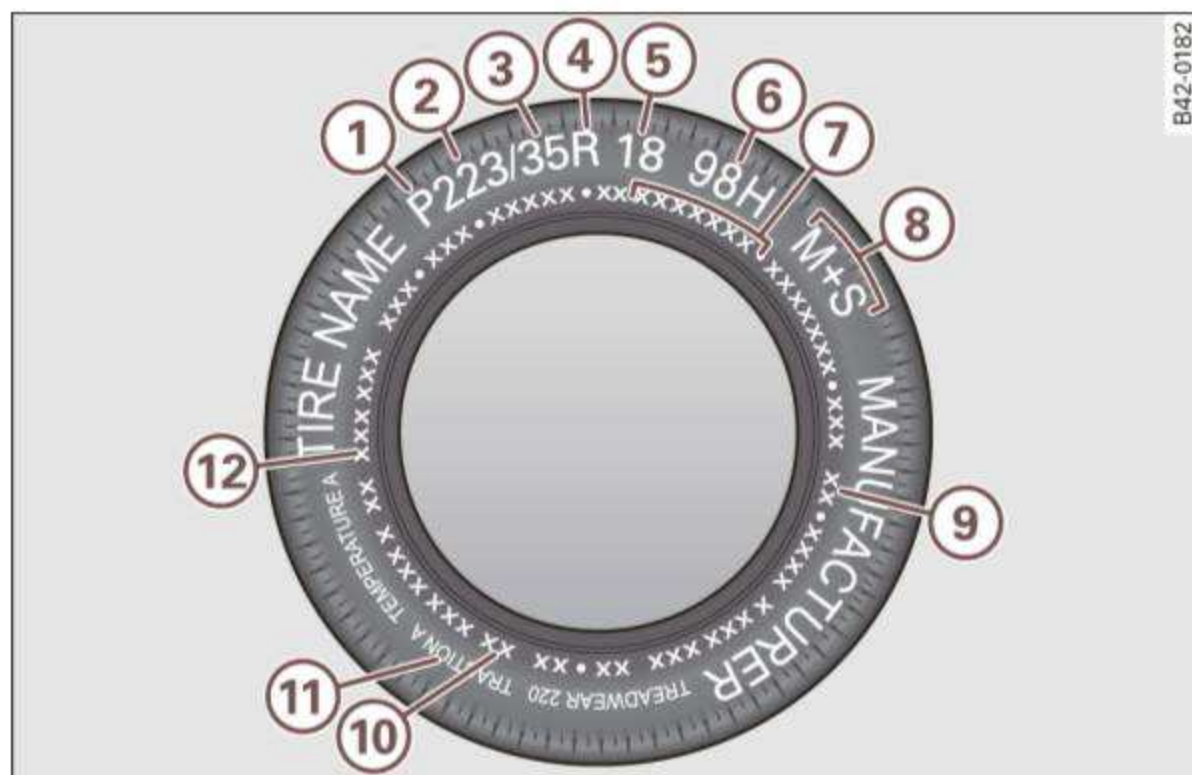

Fig. 127 Tire specification codes on the sidewall of a tire
- Check the tire sidewall (⇒ *page 218, fig. 127*) to determine the designated load rating for a specific tire. ■
Federal law requires tire manufacturers to place standardized information on the sidewall of all tires ⇒ *page 218*, fig. 127. This information identifies and describes the fundamental characteristics, the quality grade of the tire and also provides a tire identification number for safety standard certification and in case of a recall.
Quality grades can be found where applicable on the tire side wall between tread shoulder and maximum section width ⇒ *page 218*, fig. 127.